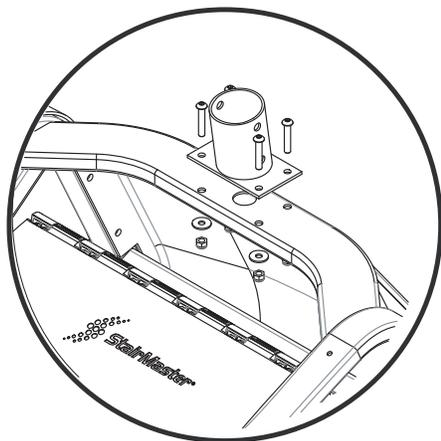

Figure 3A
- 3-1 Secure item #37(Bracket Mast Mount) to frame using hardware items #1, #10, and #8 (figure 3A)